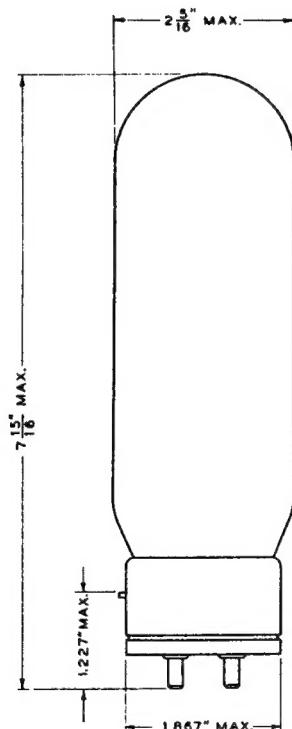

FIG. 1
**Dimensions—**Dimensions and outline diagrams are shown in Figures 1 and 2. The overall dimensions are:
**Mechanical**—Figures 1 and 2 show the overall dimensions and basing arrangement for the tube.